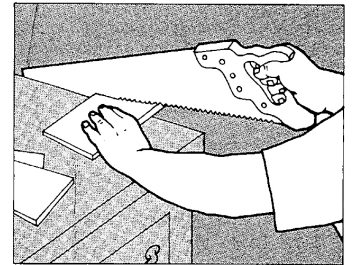

Figure 8E-1
8. As you remove the shims number them so they can be replaced in the same order. Use either your wood chisel or a handsaw to cut off excess wood to make sure they are even with the threshold (Figure 8E-1).